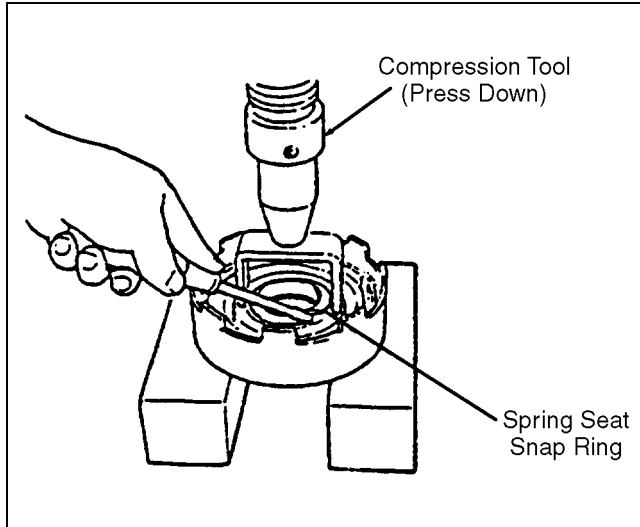

Figure 4J-13. Remove Spring Seat Snap Ring
2. Use a spring compression tool to push down the spring seat far enough to remove the spring seat snap ring as shown in Figure 4J-13. Remove the spring seat and return spring.
3. Refer back to Figure 4J-12 and remove the outer O-ring and piston from the direct clutch drum. If necessary, blow air from an air gun through the front hole in the clutch drum to free up the piston from the drum.